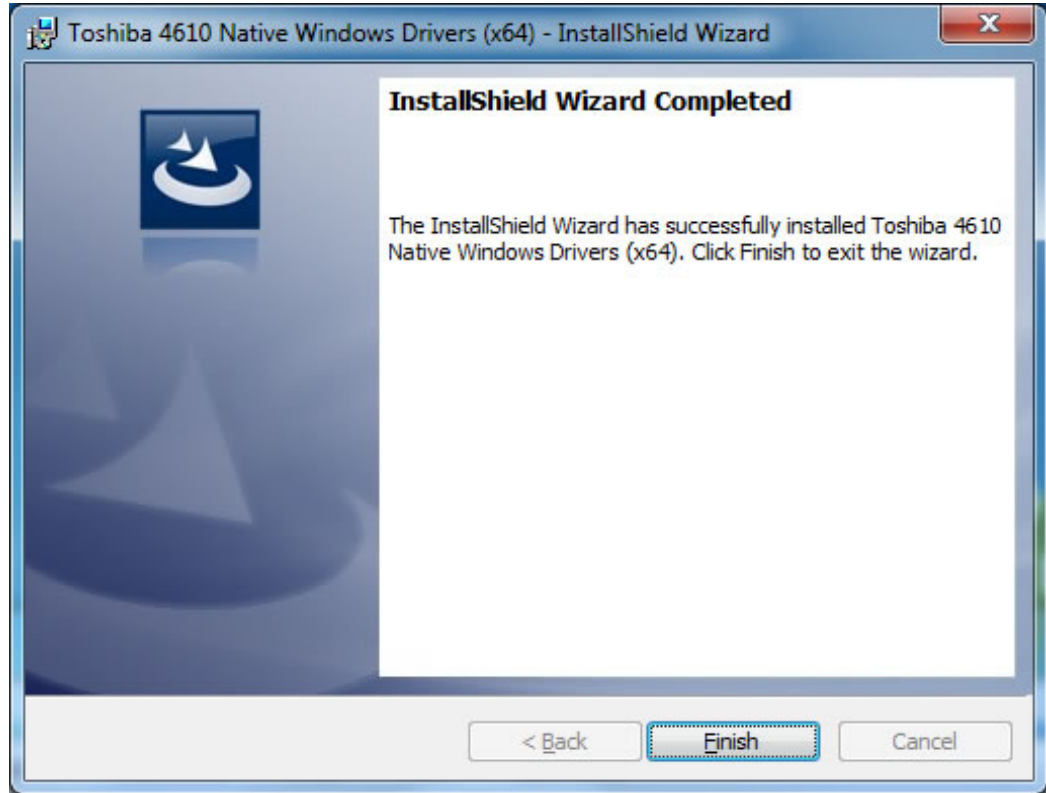

Figure 25. InstallShield Wizard Completed window
12. Once the installation is complete, the InstallShield Wizard Completed window (Figure 25) opens. Click **Finish** to complete the process.